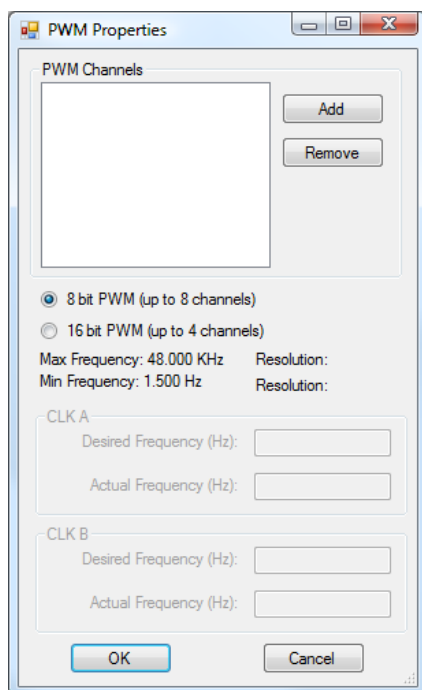

Figure 2.9 - PWM Properties Window
3. Click the **PWM PROPERTIES** button. The PWM Properties Window will open. Refer to Figure 2.9.
7. Enter the desired frequency for Clock A and Clock B (if installed). The VB-1000 has 8 available PWM Channels. These channels are either controlled with Clock A or Clock B. This allows two different PWM frequencies. The Minimum and Maximum frequencies are displayed in the PWM Properties dialog. The frequency for Clock A and Clock B must be in this range. Refer to Figure 2.9.